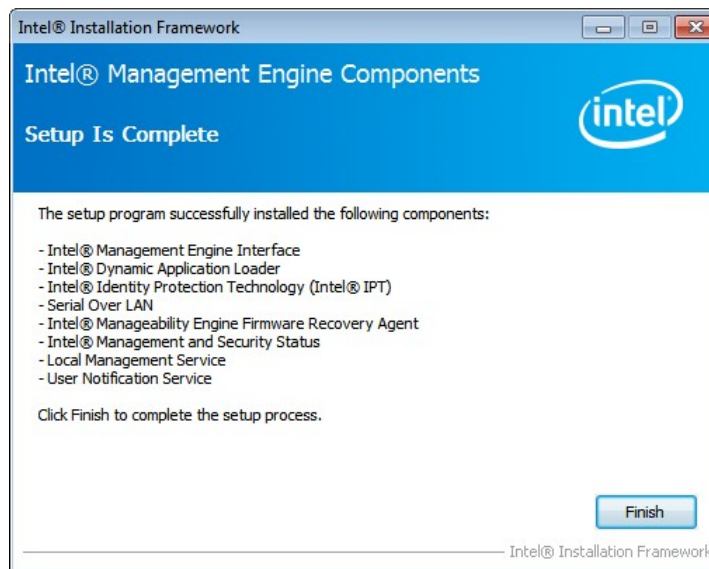

Figure 6-35: Intel® ME Driver Installation Finish Screen
Step 11: The **Finish** screen in Figure 6-35 appears.